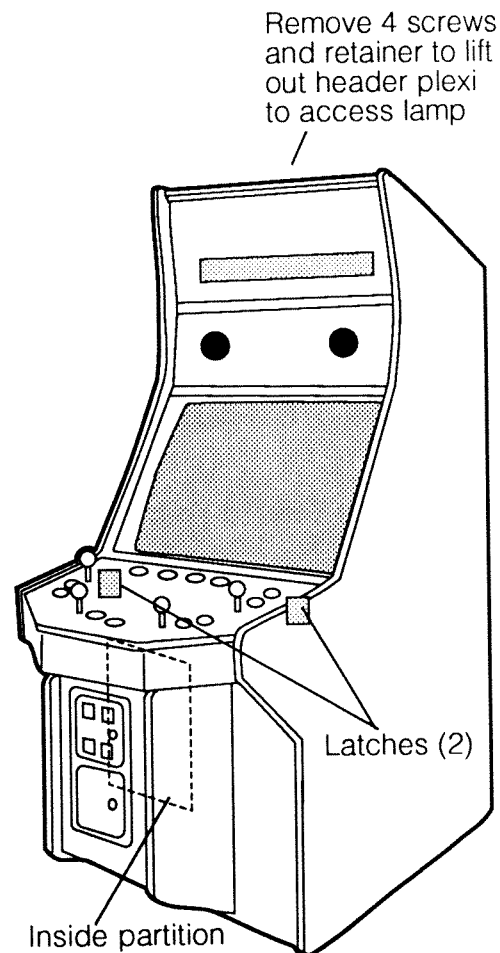

Fig. 1
3. The front panel playing surface is hinged in front to facilitate easy access to the cabinet's interior. To open the panel, reach through the coin door and through the inner partition opening to the top two corners of the front panel's underside (see Fig 1). Release the latches and lift the rear edge of the panel. The panel will then swing down, providing complete access to all pushbuttons and joysticks. The game circuit board and power supply are accessed through the lockable rear panel.